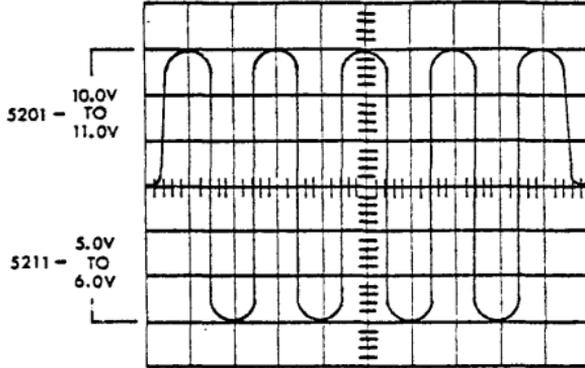

FIGURE 15
- The wave form (as viewed on the scope) should appear as in Figure 15. The distance from peak-to-peak must fall between the following voltages: